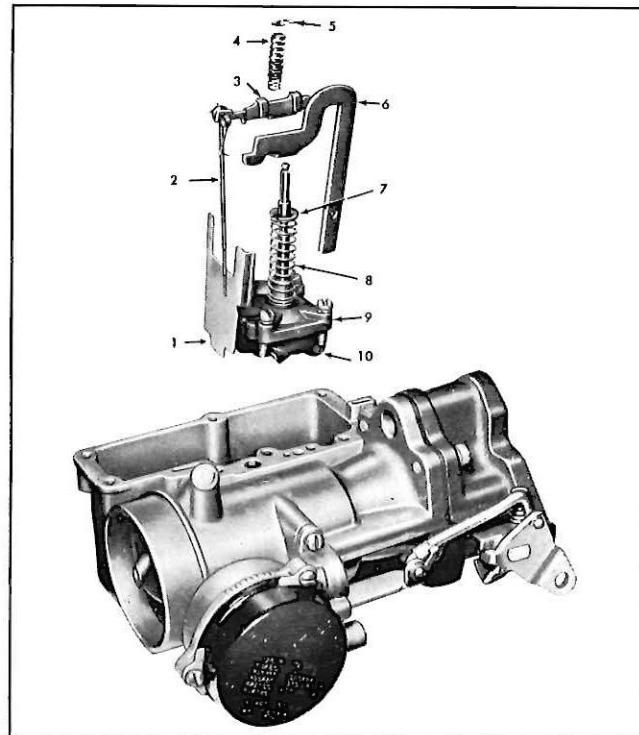

Fig. 16—Pump and Metering Rod Assembly
9. Install pump and metering rod linkage as follows: (Refer to fig. 16.)